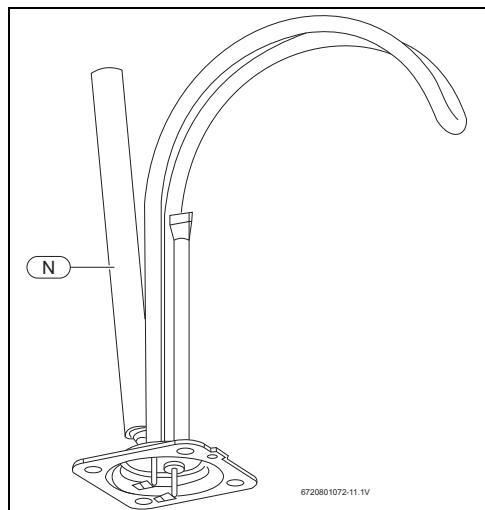

Fig. 13
The purpose of the anode rod (→Fig. 13, [N]) is to protect the tank against corrosion. Tank corrosion can lead to a water leak that could result in property damage. Anode rods are consumable items, designed to corrode over time from the effects of minerals that occur naturally in water. Sometimes called sacrificial anode rods, they attract these minerals so that the tank is protected from them. Without a properly functioning anode rod, any glass-lined steel tank including this one will eventually leak.
- ▶ Remove and replace the anode rod (→Fig. 13 [N]).